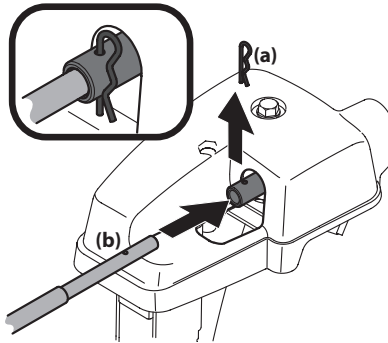

Figure 2-33
4. Remove hairpin clip (a) from rear of chute control assembly. See Figure 2-33.
5. Insert flex shaft (b) removed during Handle Assembly from lower handle into rear of chute directional control head. See Figure 2-33. Secure flex shaft to chute control head with hairpin clip (a) removed in Step 4.